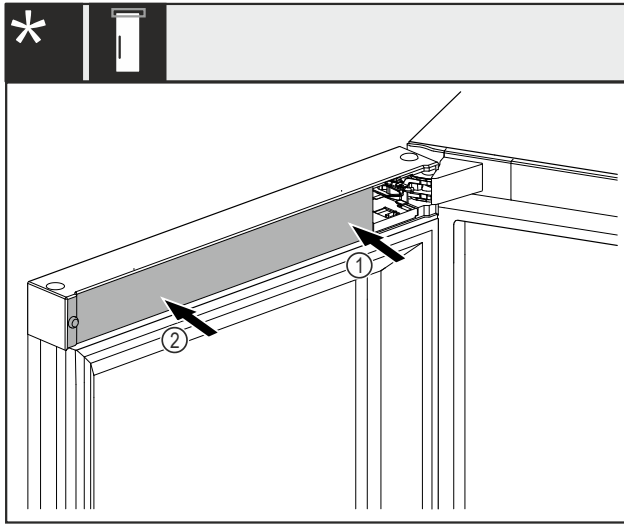

Fig. 49 \*
- ▶ Place the cover Fig. 49 (1) on the bearing bracket side first and snap into place.\*
- ▶ Fit the cover Fig. 49 (2) on the outside and snap into place.\*